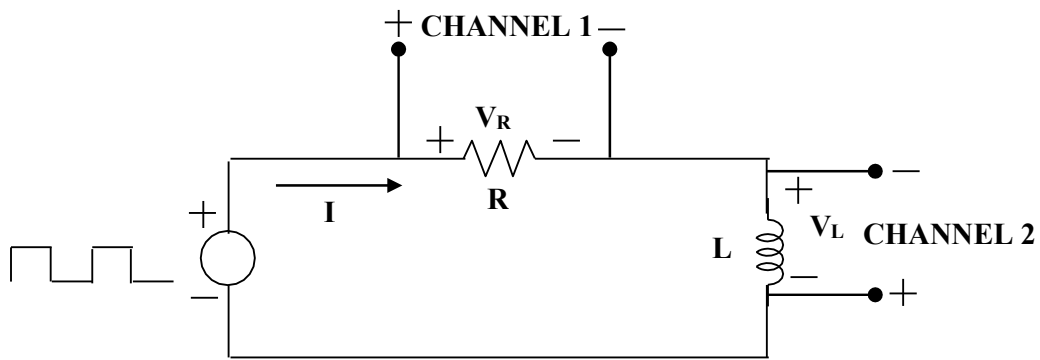

Fig.2
9. Disconnect Ch.1 and Ch.2 and reconnect them as shown in Figure 2.